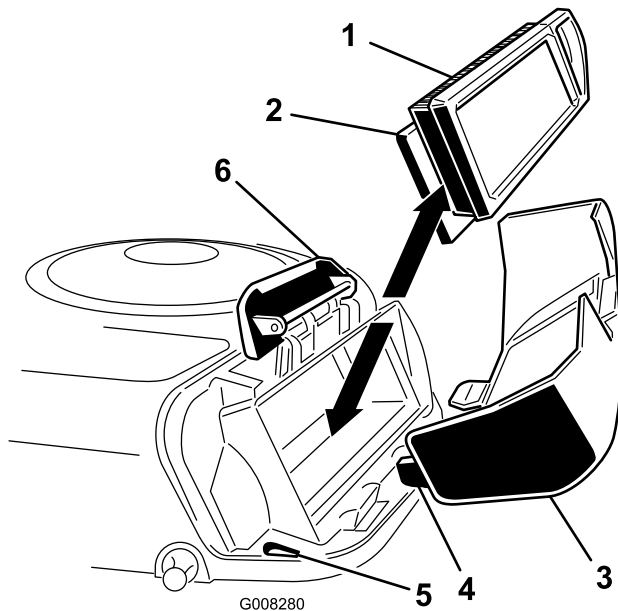

Figure 21
4. Carefully slide the paper element and the foam element from the blower housing (Figure 21).
2. Align the tabs on the air cleaner cover with the slots of the blower housing (Figure 21). Hook the handle onto the cover and press down on the handle to lock the cover in place.